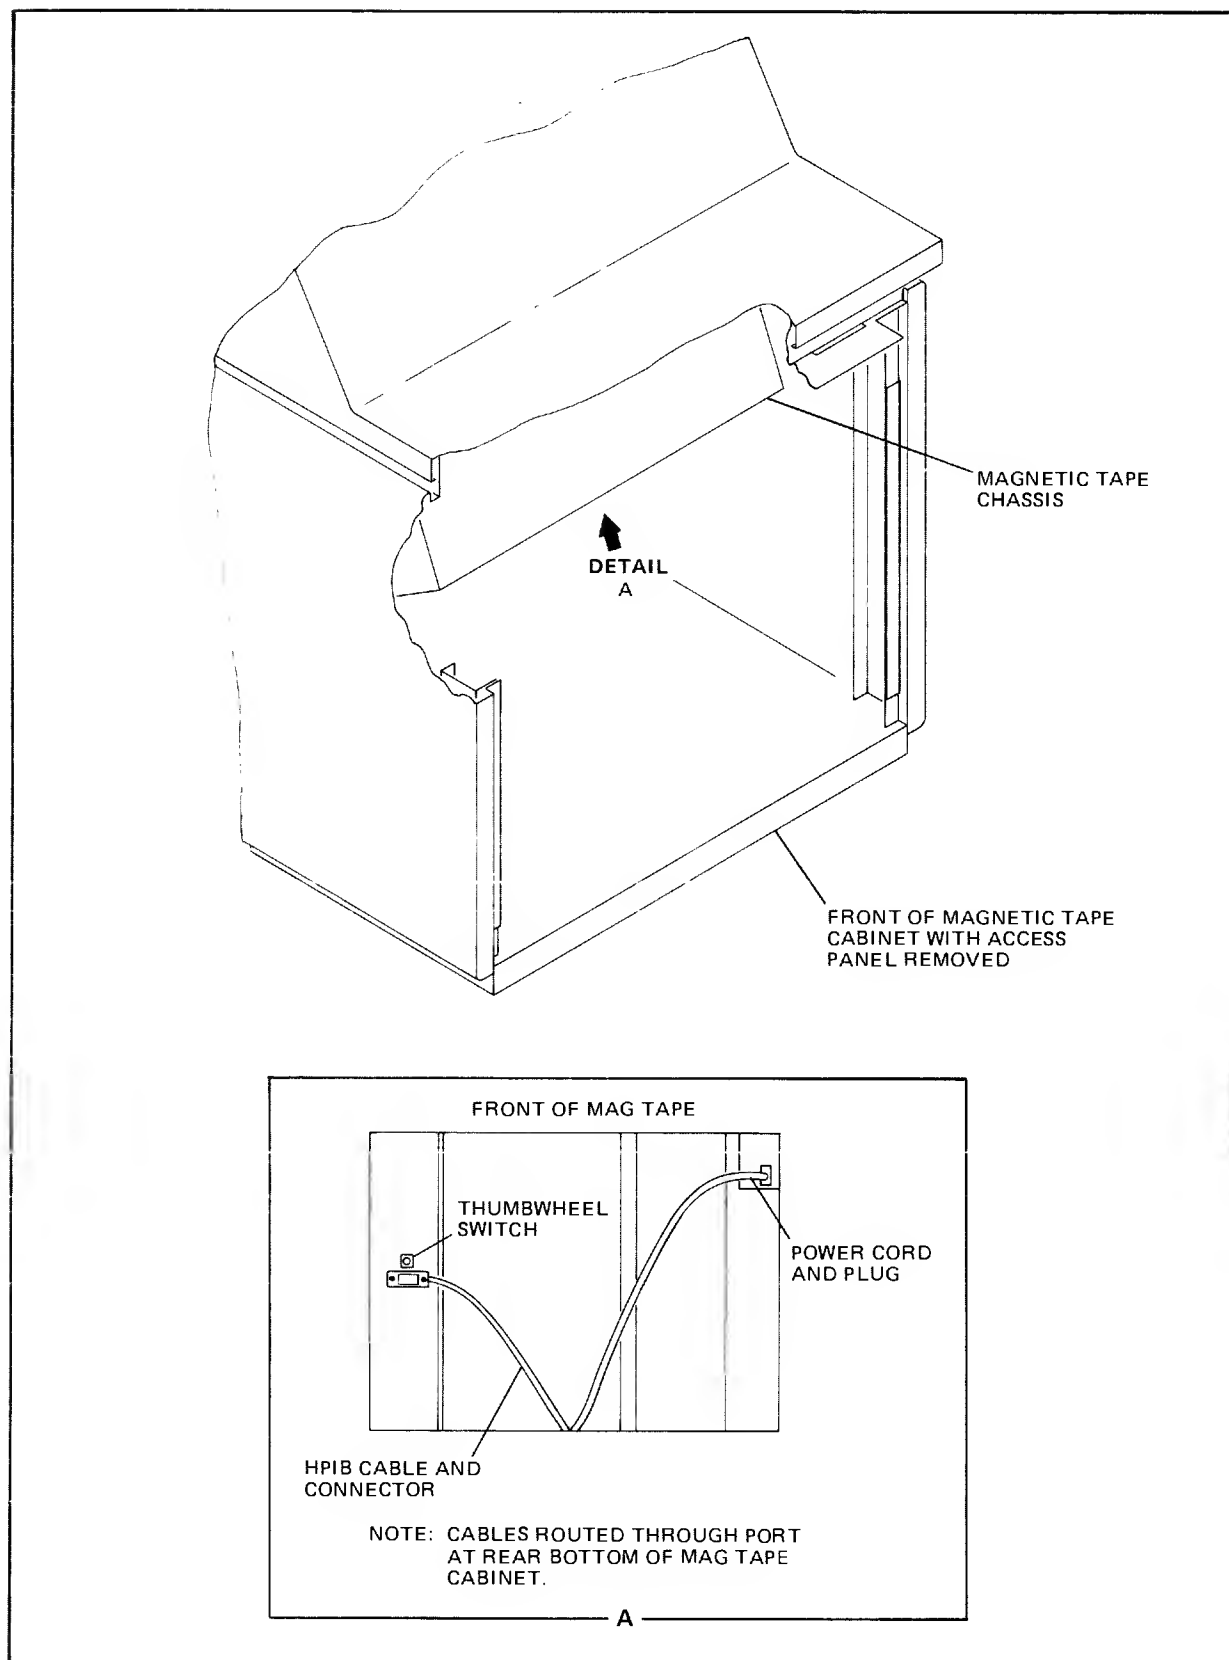

Figure 3-5. Magnetic Tape HP-IB Device Address Switch and HP-IB Cable and Connector
4. Configure the magnetic tape drive HP-IB device address switch, as illustrated in figure 3-5, to the address specified in Appendix A.